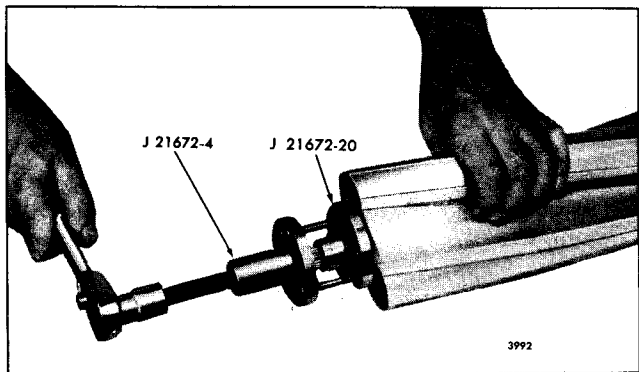

Fig. 9 - Removing Oil Seal Sleeve and Roller Bearing Inner Race from Rotor Shaft
- a. Place the roller bearing inner race and oil seal sleeve remover J 21672-20 over the rotor shaft behind the oil seal sleeve as shown in Fig. 9.
- b. Back out the center screw of one gear puller J 21672-4, then attach the puller to the oil seal sleeve remover with three 1/4" -20 x 3" bolts and flat washers as shown in Fig. 9.